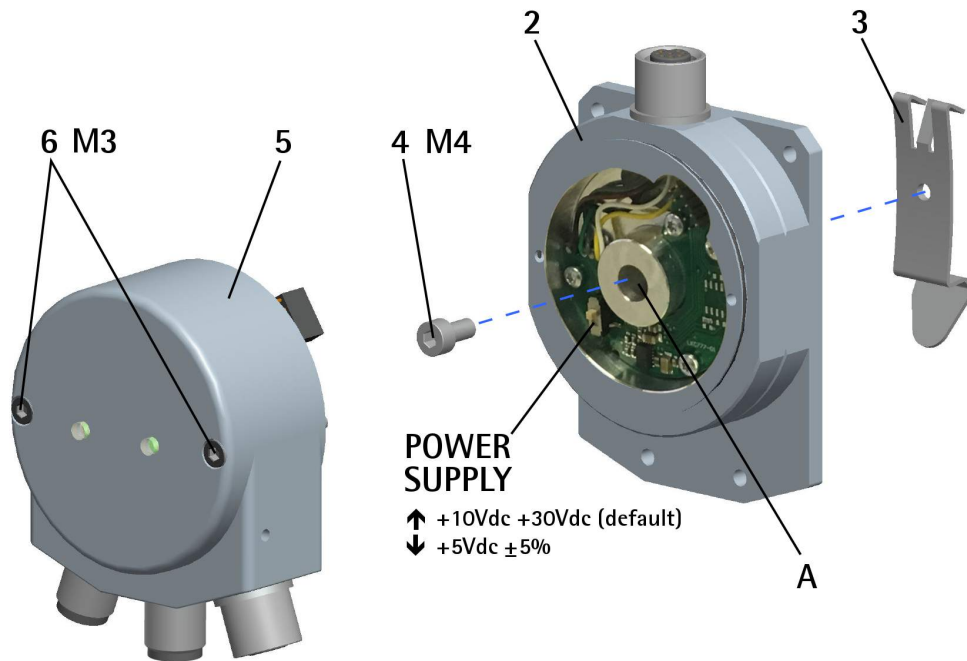

Figure 3
3.3 Installation with DIN rail clip (Figure 3)